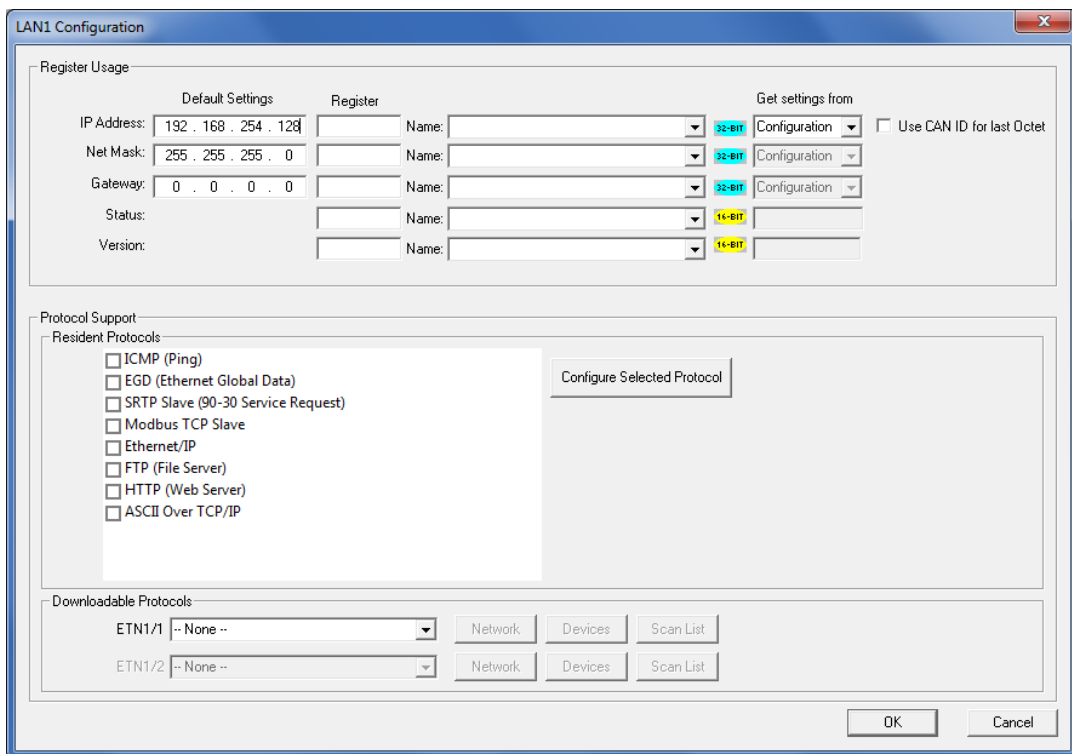

Figure 7.2 - Ethernet Module Configuration
3. Click the **Config** button to the right of LAN1 revealing the Ethernet Module Configuration dialog as shown in figure 7.2.